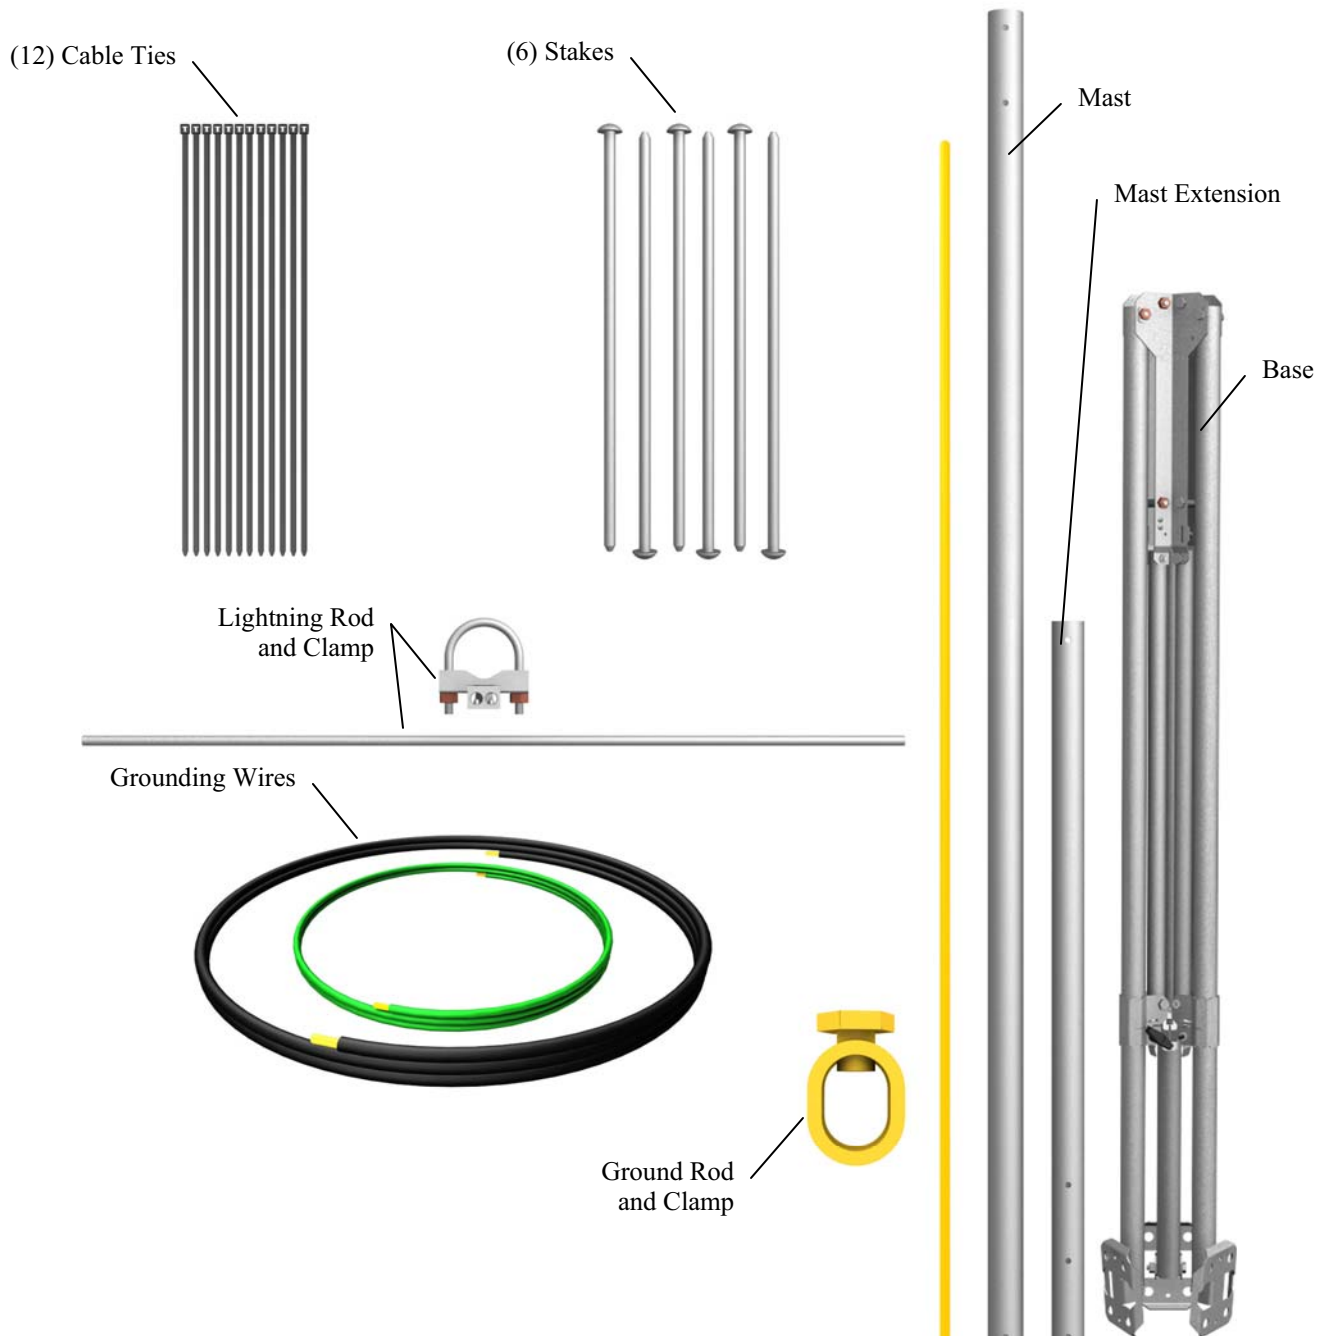

FIGURE 4-1. Tripod Components
Figure 4-1 shows the tripod components. The tripod base is packaged with the mast, ground rod, lightning rod and (6) stakes. The ground rod clamp, lightning rod, cable ties, and grounding wires are enclosed in a bag. The optional guy kit is packaged separately.